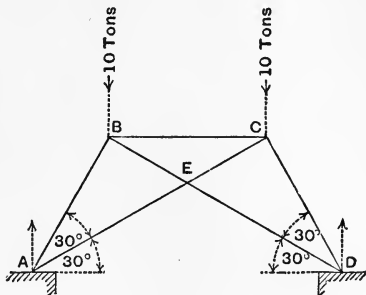

Fig. 3.
5. The framework illustrated in fig. 3 is supported by vertical reactions at A and D . Use the method of section to determine the stress in BC